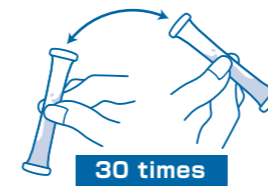

Fig.10
- Shake the tube lightly about 30 times. (Fig.10)